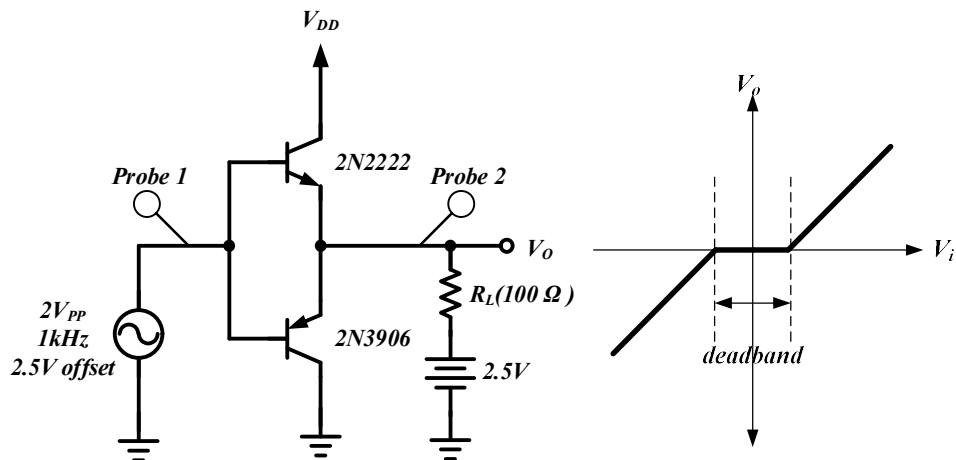
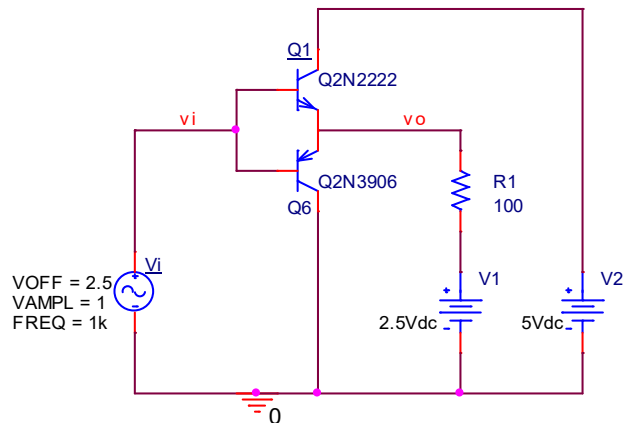

Fig. 10.4 Circuit diagram of the class-B output stage for exploration
Fig. 10.7 Class-B output stage for SPICE simulation
- (1) Use PSPICE to verify the characteristics of class-B output stage as shown in Fig. 10.7, which is the same schematic as Fig. 10.4. Set VDD to be 5V, and  $V_{in}$  to be sine wave with 2Vpp, 1kHz.